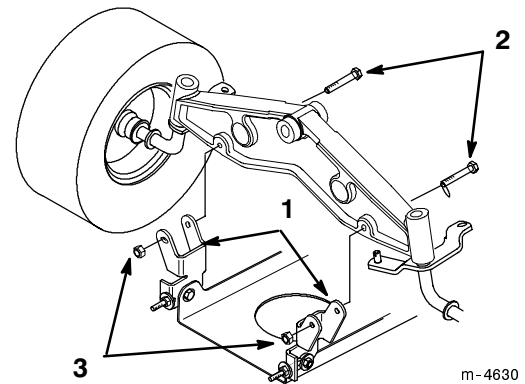

Figure 41
4. Install the mower pivot mount brackets to the front axle with bolts and lock nuts (Fig. 41).